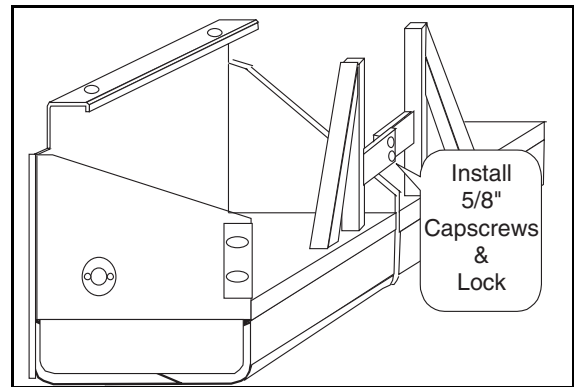

Figure 3 - 35 5/8" Cap Screws - Installation
- 2) Install two 5/8" by 2" cap screws (Figure 3 - 35) into the red screed aligning plates and tighten to hold the screed frame rigid when the screed bottom is removed.
- 3) Loosen nut on cover plate of left inside upper screed frame and rotate plate 90° as shown in Figure 3 - 35.